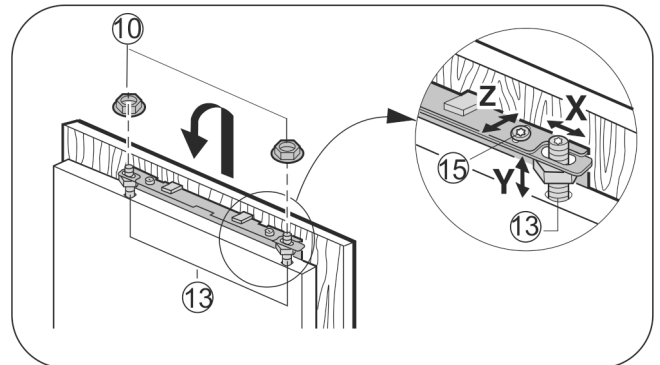

Fig. 31
- ▶ Attach the unit door on the adjusting bolts Fig. 31 (13) and loosely screw locknuts Fig. 31 (10) onto the adjusting bolts.
- ▶ To align the unit door in the Y direction (height) and in lateral inclination: Adjust the adjusting bolts Fig. 31 (13) with a screwdriver.
- ▶ Tighten the locknuts Fig. 31 (10).